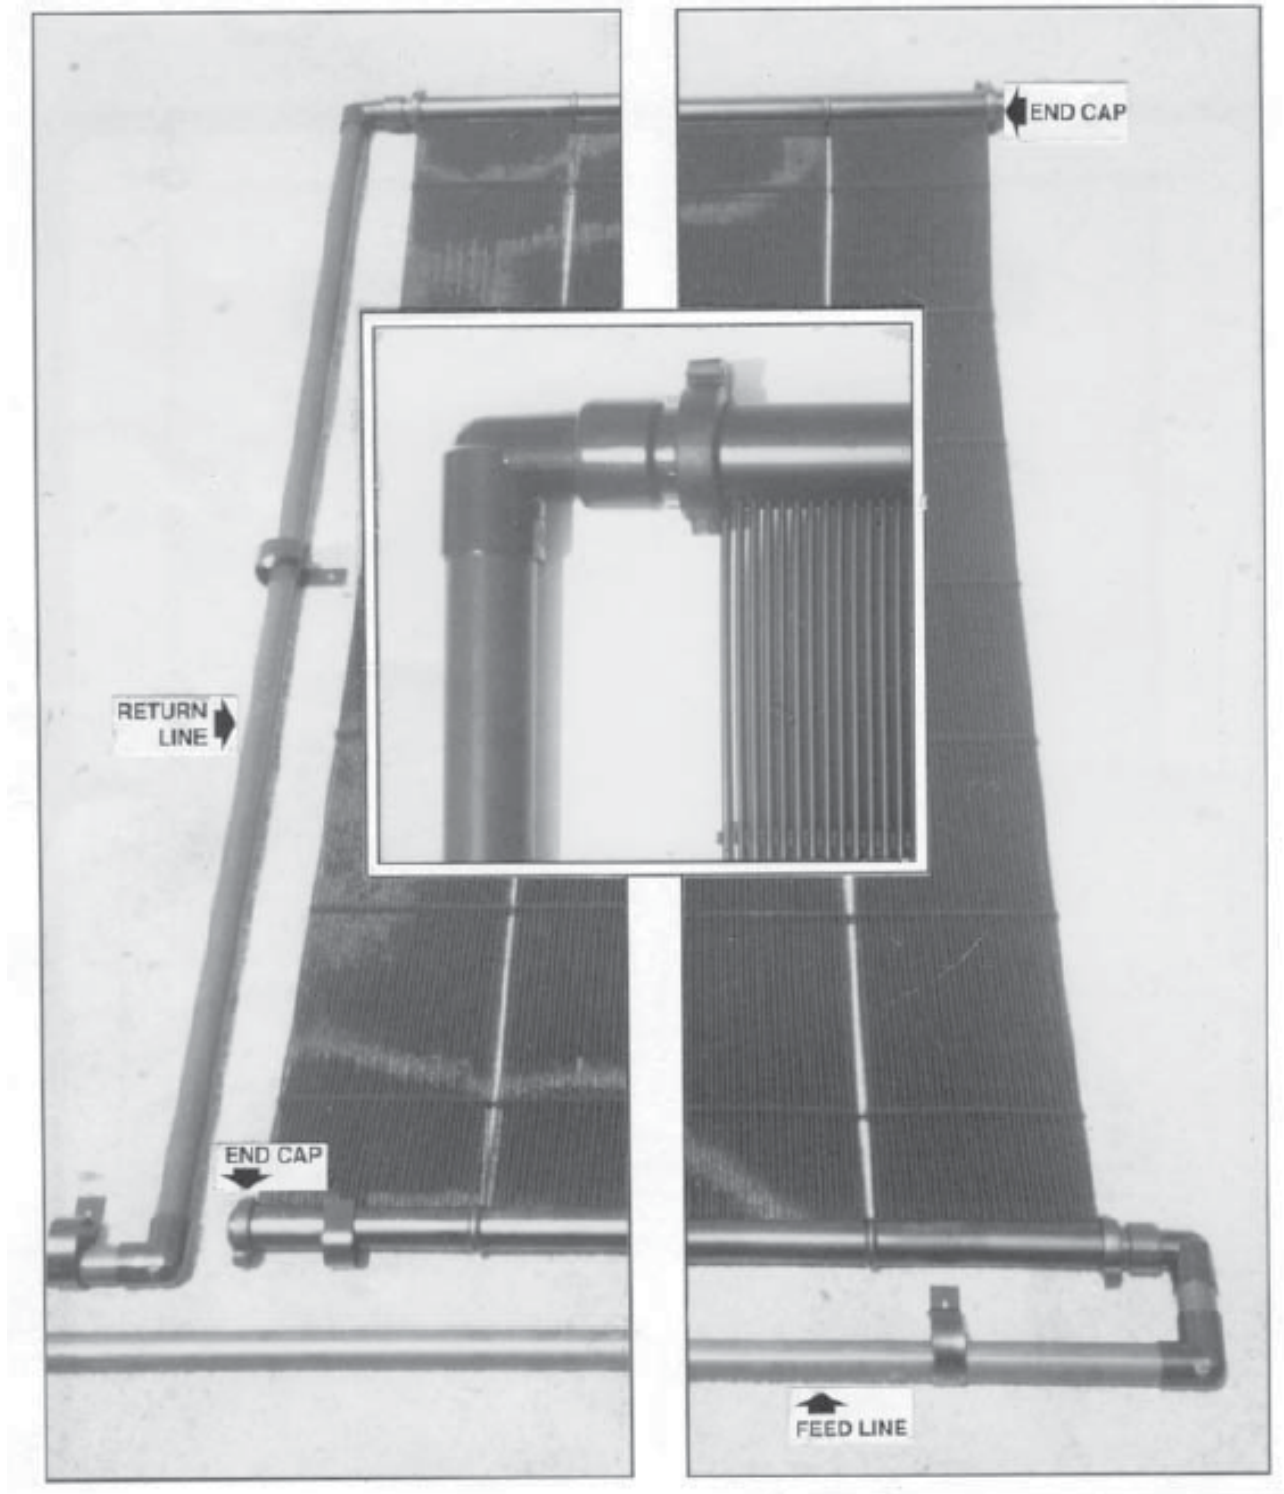

Fig. 12
1. Cement the appropriate size PVC 90-degree elbow to the return line connection facing down toward the bottom manifold. Repeat the process for the feed line manifold connection and face the elbow down away from the bank. (Fig. 12)